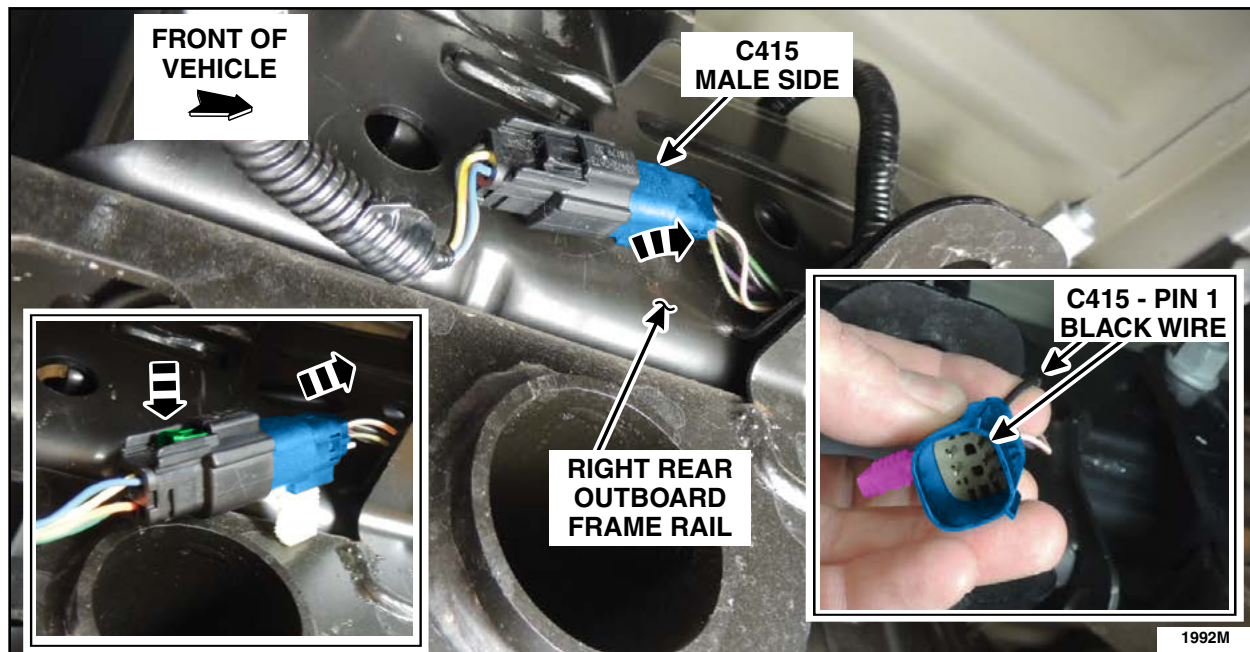

FIGURE 8
8. Working from the rear of the vehicle, disconnect connector C415 (Without BLIS) located on the right rear outboard frame rail, above the tailpipe. Then Locate pin 1 (Black (BK) wire) on the male terminal side. See Figure 8.
13. Connect connector C415 or connector C4484 and reattach the connector to the right rear frame rail. See Figure 8 or 9.